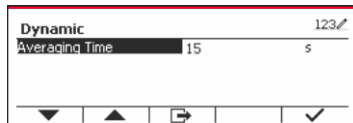

Figure 81
3. After setting the desired averaging value, press the softkey corresponding to the  icon for confirmation. (See Figure 81)